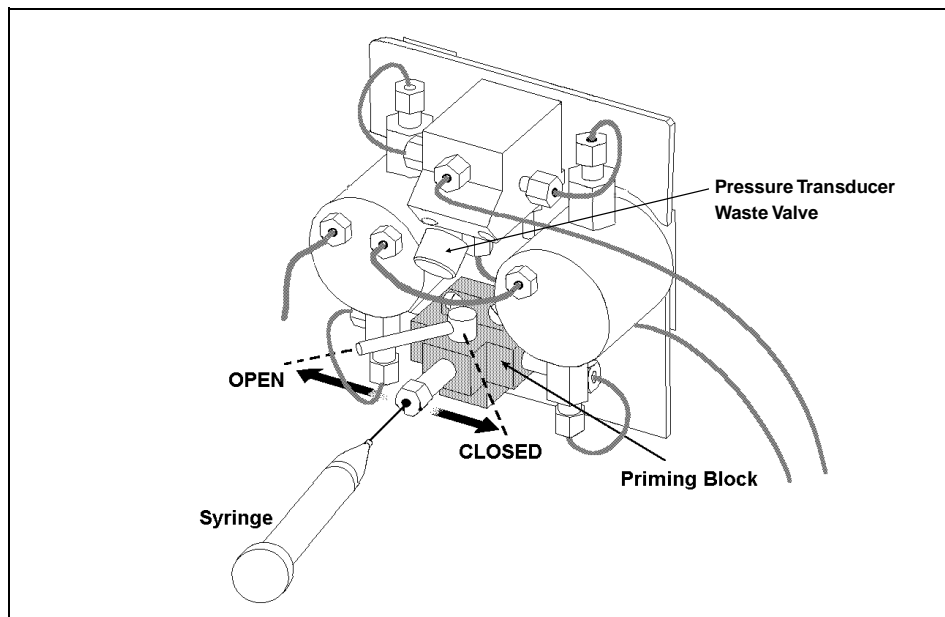

Figure B-5. Priming the Pump
4. Connect a 10 mL syringe (P/N 016387) to the luer adapter on the priming block. Turn the lever on the priming block all the way to the left to its maximum open position (see Figure B-5).
7. Move the lever on the priming block to the right to its fully closed position (see Figure B-5).
2. Open the pressure transducer waste valve (see Figure B-5) by turning the knob counterclockwise about two turns. When the waste valve is open, flow goes from the priming block through the pump heads and directly out to waste (bypassing the eluent out line to the column).
1. Connect a 10 mL syringe (P/N 016387) to the luer adapter on the priming block (see Figure B-5).
3. Move the lever on the priming block to the left as far as it will go (see Figure B-5). Press **Prime**.